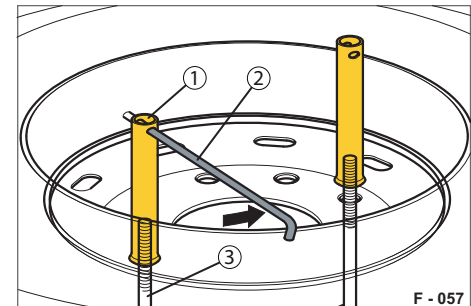

Fig. 84 Loosening the tube nuts
- ▶ Unscrew the tube nuts (Fig. 84/1). Use the tommy bar as a lever and hold the hook bolt (Fig. 84/3) firmly in place.